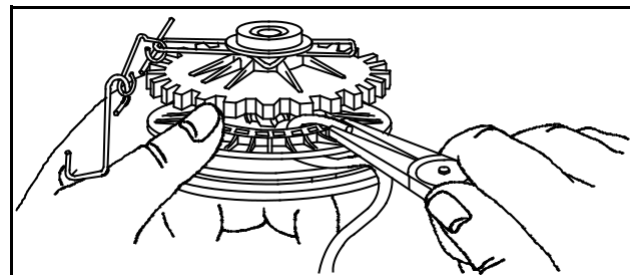

Fig. 54
10. Use a rope inserter tool and/or pliers to remove rope from pulley, Fig. 54. Typical. You can make a rope inserting tool as shown in Fig. 13, page 5.